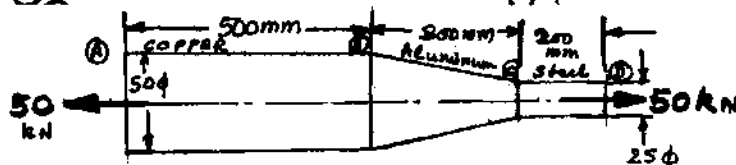

Fig. Q1 (c)
c. A stepped bar is subjected to external loading as shown in Fig. Q1 (c). Calculate change in length of the bar. $E = 200$ GPa for steel, $E = 100$ GPa for copper and $E = 70$ GPa for aluminium. (10 Marks)